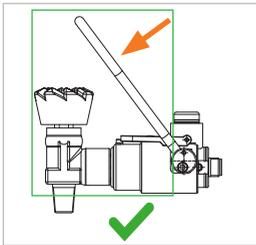
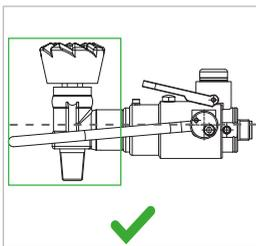

Figure 5
Figure 6
- ▶ Fold the actuation unit (Pos. 1) downwards (*Figure 5*). It must be possible to lower the bail/lever easily and without any force. The actuation unit (Pos. 1) is correctly positioned when the locking device (Pos. 8) engages with an audible click. The position of the locking device (Pos. 8) changes from horizontal to a diagonally upward pointing position. The thread segments clamp tight when connected to the thread of the cylinder valve. In its end position, the actuation unit (Pos. 1) must be below the horizontal of the connector (*Figure 6*).